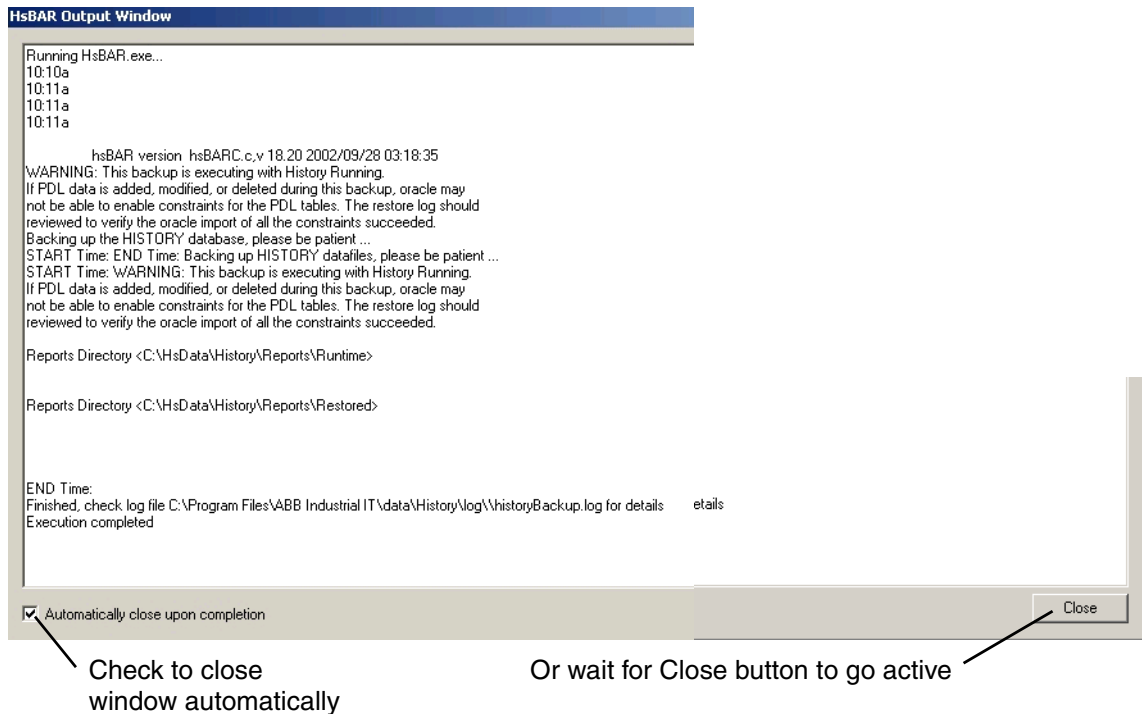

Figure 300. Closing HsBAR Output Window
8. The HsBAR Output window may be opened over and hide the progress status window. There is a check box for specifying that the HsBAR window be closed automatically when finished, Figure 300. This is recommended. When the window is not closed automatically, wait for the **Close** button to be activated on the bottom of the output window, then click the **Close** button.